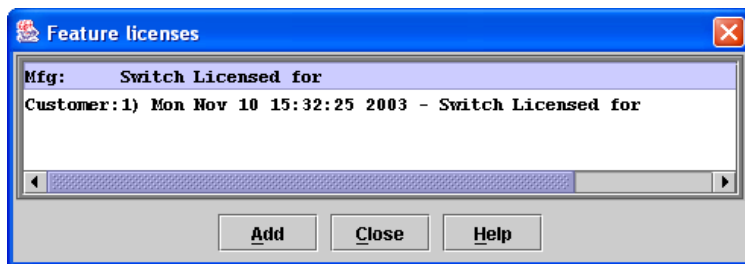

Figure 36 Features Licenses dialog
3. Select **Switch > Features** to display the Feature Licenses dialog shown in Figure 36.